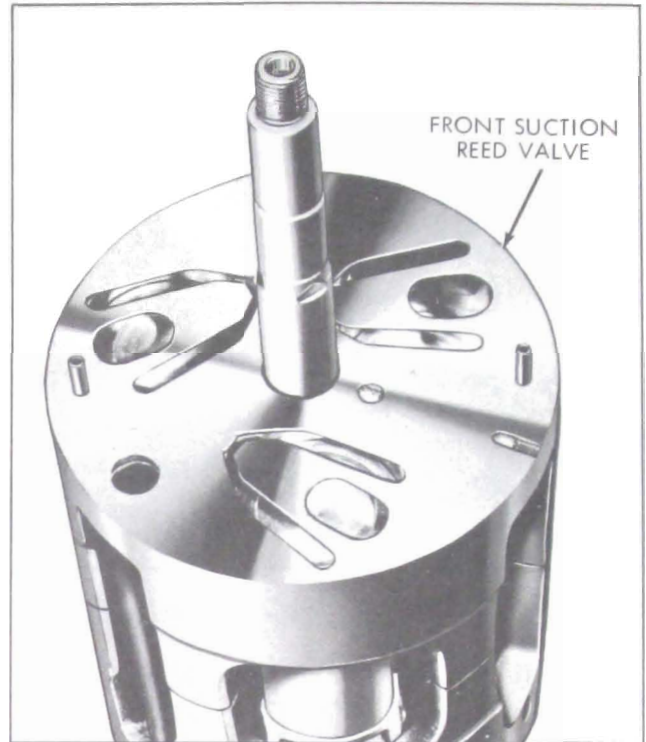

Figure 11-122—Front Suction Reed Valve Installed
2. Assemble suction reed valve to front end of cylinder. Align dowel pin holes, suction ports and oil return slot. See Figure 11-122.